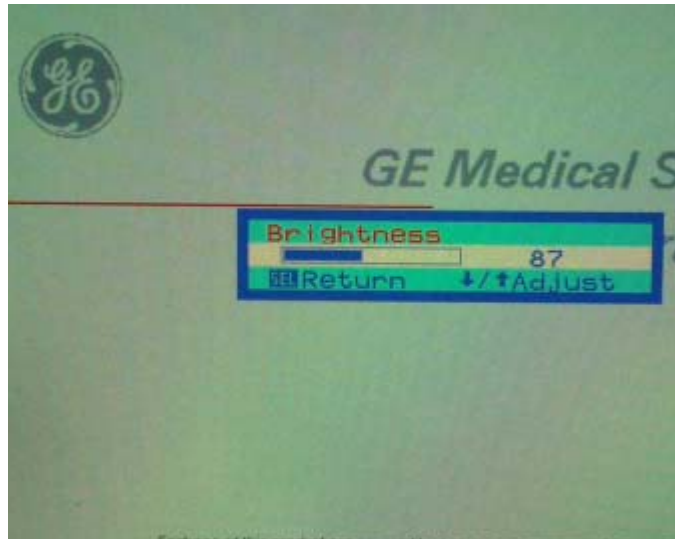

**Figure 6-6 OSD Menu Display**
3.) OSD Menu is shown on the LCD screen. Refer to Figure 6-6 on page 6-7 .